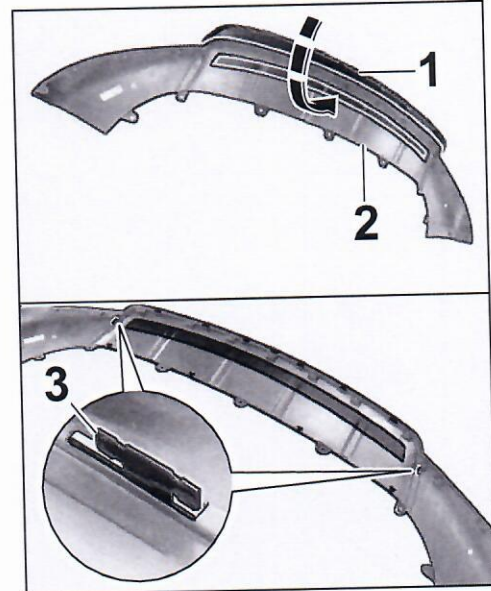

Figure 9
2.3 Fit front spoiler on stainless steel skid plate and carefully guide the outer retaining pivots into the slots (\Rightarrow Figure 9).